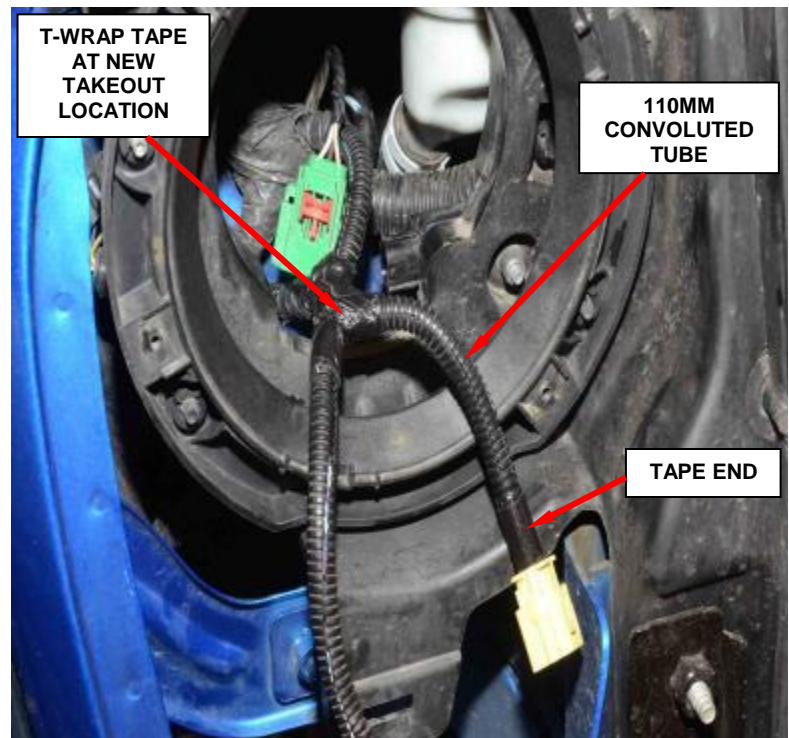

Figure 10 – T-Wrap Tape
27. T-wrap tape the new takeout location on the wire harness (Figure 10).